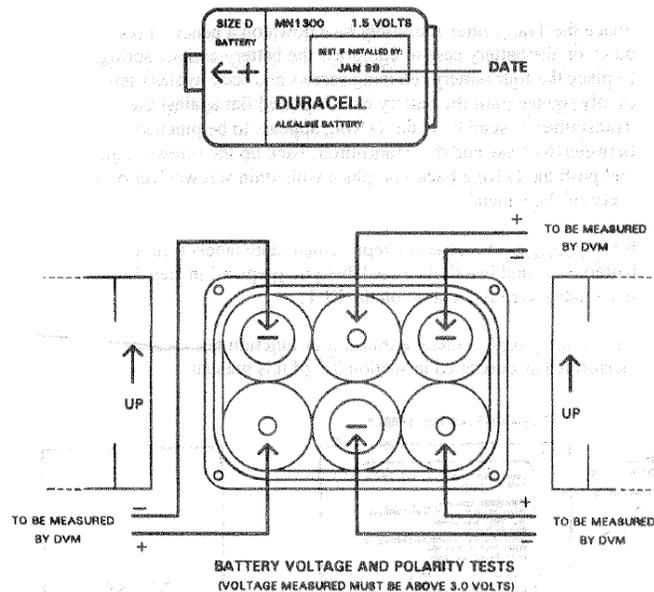

Figure 25-16 Battery Polarity Check
3. Check polarity of the installed battery set as shown in Figure 25-16.